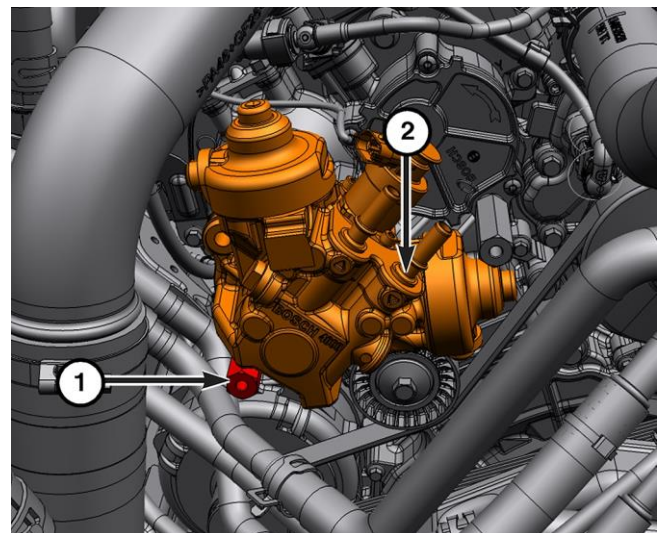

Figure 72 – HPFP Lower Bolts
9. Remove the lower bolt (1) from the HPFP and remove it from the vehicle (Figure 72).
16. Install the lower fuel injection pump (2) and hand tighten the bolt (1) (Figure 72).